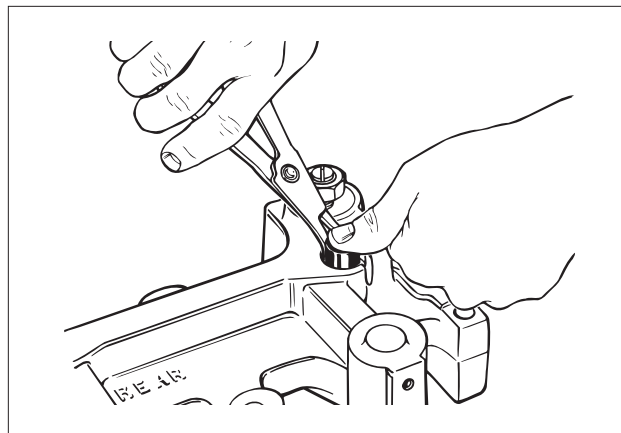

FIG. 28
1. Apply pressure on the control valve cover and remove retaining ring using retaining ring pliers (see Fig. 28).